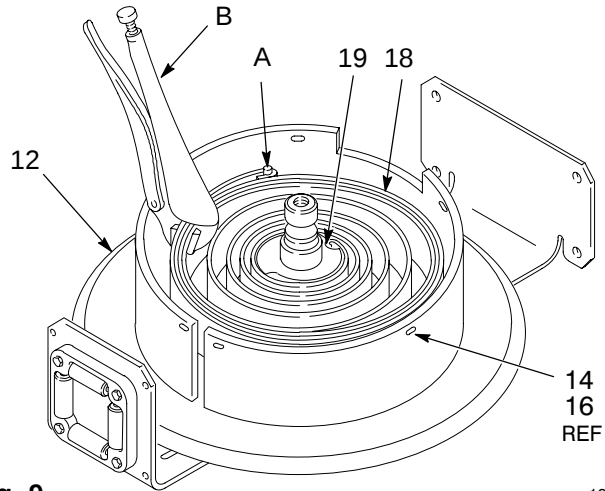

Fig. 9
5. Remove the reel from the vise and lay it on a flat work surface so the pedestal (5) is on the bottom. See Fig. 9. Remove the screws (14) and nuts (16) from the reel flanges (12 & 20).
6. First, make sure the reel is laying flat. Then, using extreme caution, lift up on the flange to expose the spring (18).
If either end of the spring (18) is worn or damaged and does not hook properly on the reel hub (19) or the pin (A), which is welded to the inside of the lower reel flange (12), replace the spring. See Fig. 9. If the pin itself is broken, the lower reel flange must be replaced.
8. To remove the spring, use locking pliers to compress and hold several rows of the spring together, then lift out the spring. See Fig. 9.
10. When greasing and installing the new spring, use a locking pliers (B) to compress several rows of the spring together. See Fig. 9.
To ensure proper spring operation, the spring and reel hub must be installed with the inside end of the spring hooked into the reel hub (19) and the outside end of the spring hooked to the pin (A). See Fig. 9 on page 16.